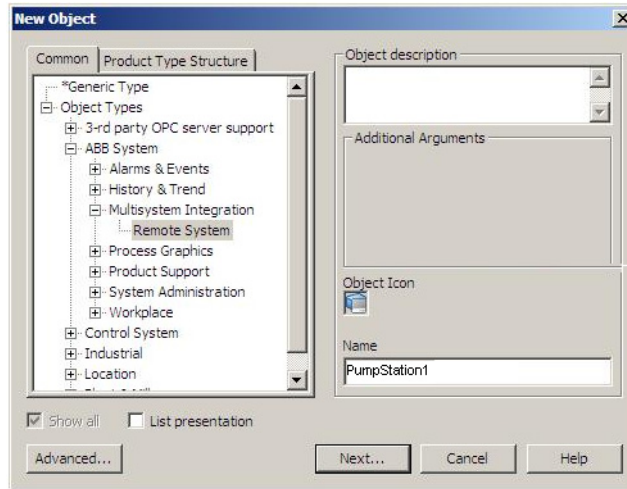

Figure 12. New Object Dialog Box for Remote System Object
1. To create a Remote System object, select Control Structure and select **New object** from the context menu. Select the object type **Remote System** in the **New Object dialog**, see Figure 12.